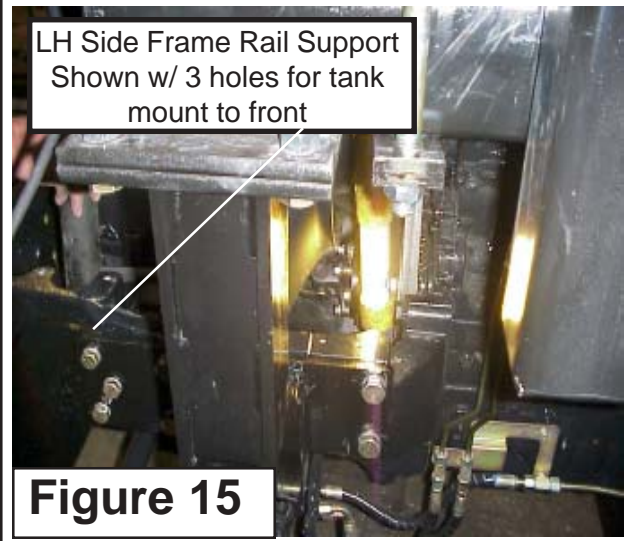

Figure 15
1. Install Frame Rail Supports. P/N 02980667 LH and P/N 02980668 RH. The three bolt holes that mount the Tank rails are to the front as shown. (See figure 15 & 16). Install the frame rail support one side at a time using the four 20 mm X 50 mm bolts (P/N 02975692) and the 4 lock washers (See Figure 15 & 16). Do not tighten bolts until both sides are installed, then tighten all the bolts on both sides. There are four bolts total on each side to be tightened. Double check all these bolts.